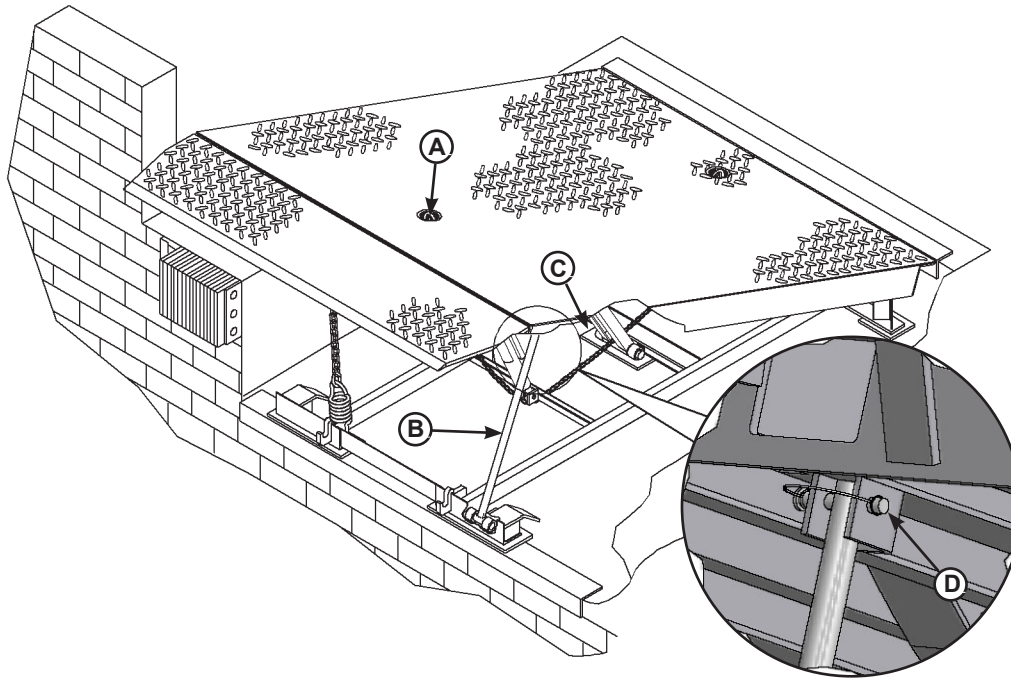
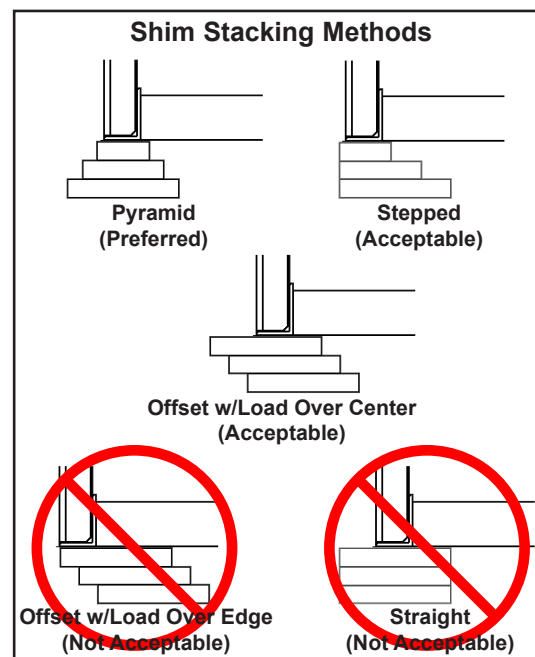

Figure 12
Figure 13
22. Shim and weld the maintenance prop (Figure 12):
- Install shims under maintenance prop (B) where prop attaches to leveler frame. Make sure prop is solidly shimmed.
- Raise maintenance prop (B) to the service (upright) position and lock prop in this position using an OSHA approved locking device.
23. Install shims under lift arm (C, Figure 12) at locations using an acceptable shimming method (see Figure 13). The lift arm pivot must be solidly shimmed the entire length of the lift arm pivot. Make sure the lift arm pivot is level from side-to-side.